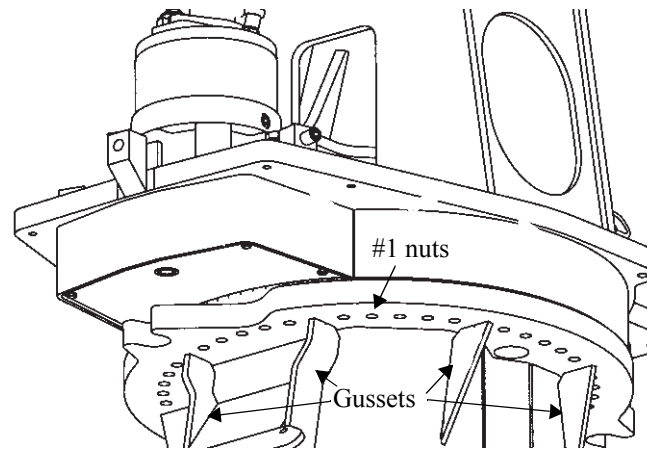
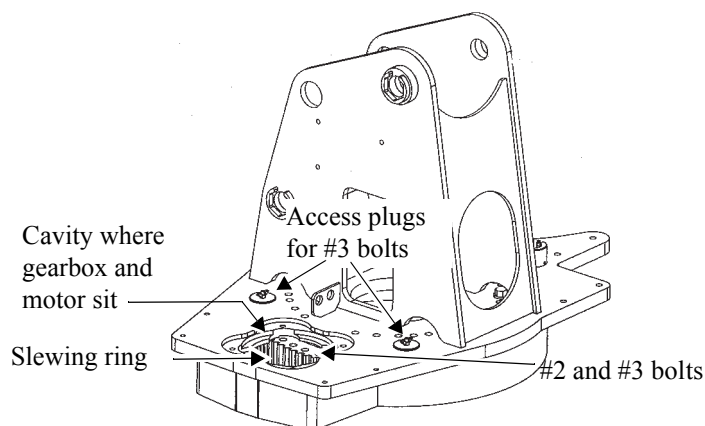

Figure 31 - Location of #1 nuts
Figure 32 - Location of bolt access plugs
1. Check the torque value of the 40 #1 nuts that are visible around the plate protecting the slewing ring and tighten if necessary (see *Figure 31*, below).
2. Check the torque value of the 32 #2 nuts that are visible on the loader head and tighten if necessary (see *Figure 31*, above).
4. Unscrew both access plugs, located on either side of the gearbox (see *Figure 32*, below).
5. Starting with the booms straight out from the frame as in *Figure 4* on page 25, turn the booms 22° clockwise. This should align the first pair of bolts with the access holes (the bolts are indicated by the black points in the mounting in *Figure 32*, and are aligned with the gussets visible in *Figure 31*).